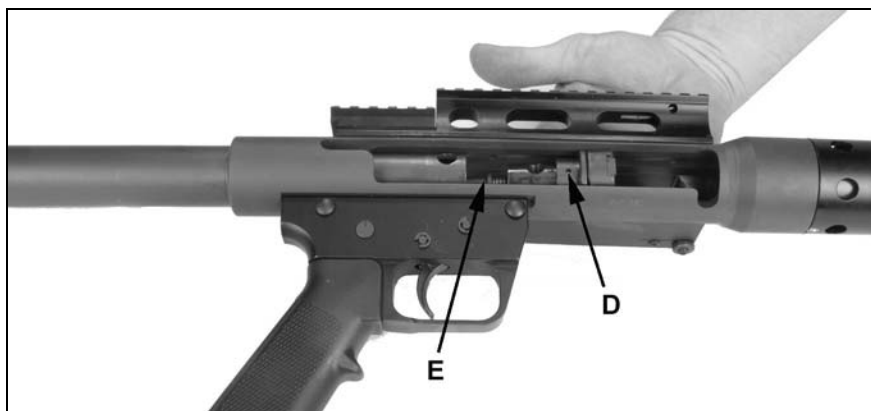

Figure 33
3. Install firing pin (E) and bolt (D) into upper receiver. See figure 33.